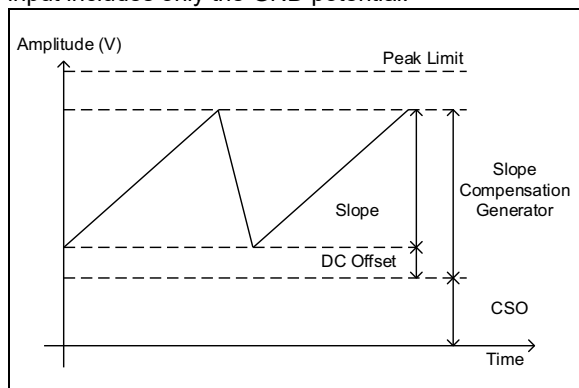
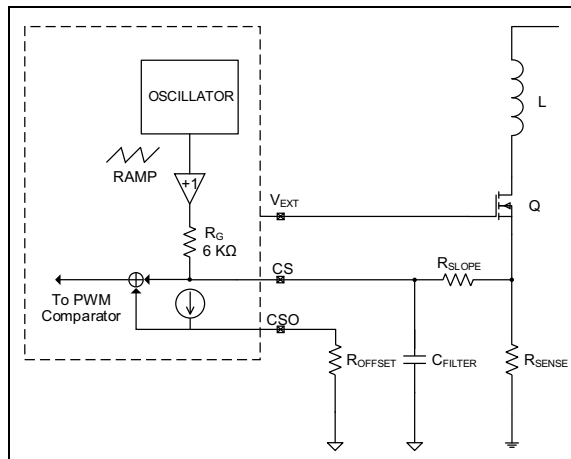

FIGURE 4-2: Slope Compensation Signal.
FIGURE 4-3: Slope Compensation Circuit.
The error amplifier is a transconductance type (OTA) with external compensation network connected between the output (COMP) and the ground. The error amplifier generates an error signal proportional to the difference between the LED current sense feedback voltage and the V_{REF} input voltage. The error amplifier output is clamped by a precision 2.7V internal voltage source. The output of the error amplifier is connected to the inverting input of the high-speed comparator. As the output load current demand increases, the error amplifier output increases too, causing the inverting input pin of the high-speed comparator to increase. Eventually, the output of the error amplifier will hit the clamp, limiting the input of the high-speed comparator to 2.7V. By limiting the inverting input to 2.7V, the current sense (IP) input is limited to 2.7V minus DC offset value (CSO), thus limiting the current that flows in the main switch. Limiting the maximum peak current in the switch prevents the destruction of the semiconductor device and the saturation of the inductor during overloads. To simplify the design when the CS signal is too small and the peak limit is far away, there is another feature called I peak offset (CSO). This DC value is added to the current sense information to avoid output overloads. Refer to Figure 4-2 and Figure 4-3 for a detailed description. The error amplifier input includes only the GND potential.